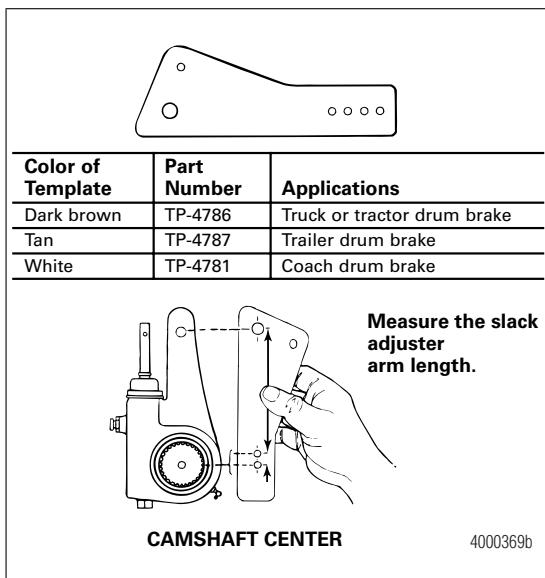

Figure 5.9
- Use the correct Meritor automatic slack adjuster template to measure the length of the slack adjuster. The marks by the holes in the small end of the template indicate the length of the slack adjuster. Figure 5.9.